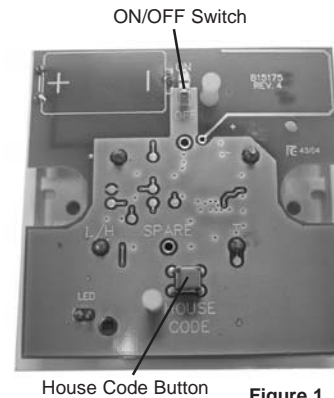

Figure 1
3. Carefully slide the battery switch into the 'on' position (see figure 1). The amber light will flash once.
However, there is no guarantee that interference will not occur in a particular installation. Interference from the Smoke Alarm system can be identified by turning the whole system off. See figure 1 for this unit. Refer to the instructions supplied with the other products used for information on these. The user is encouraged to eliminate the interference by one or more of the following measures: